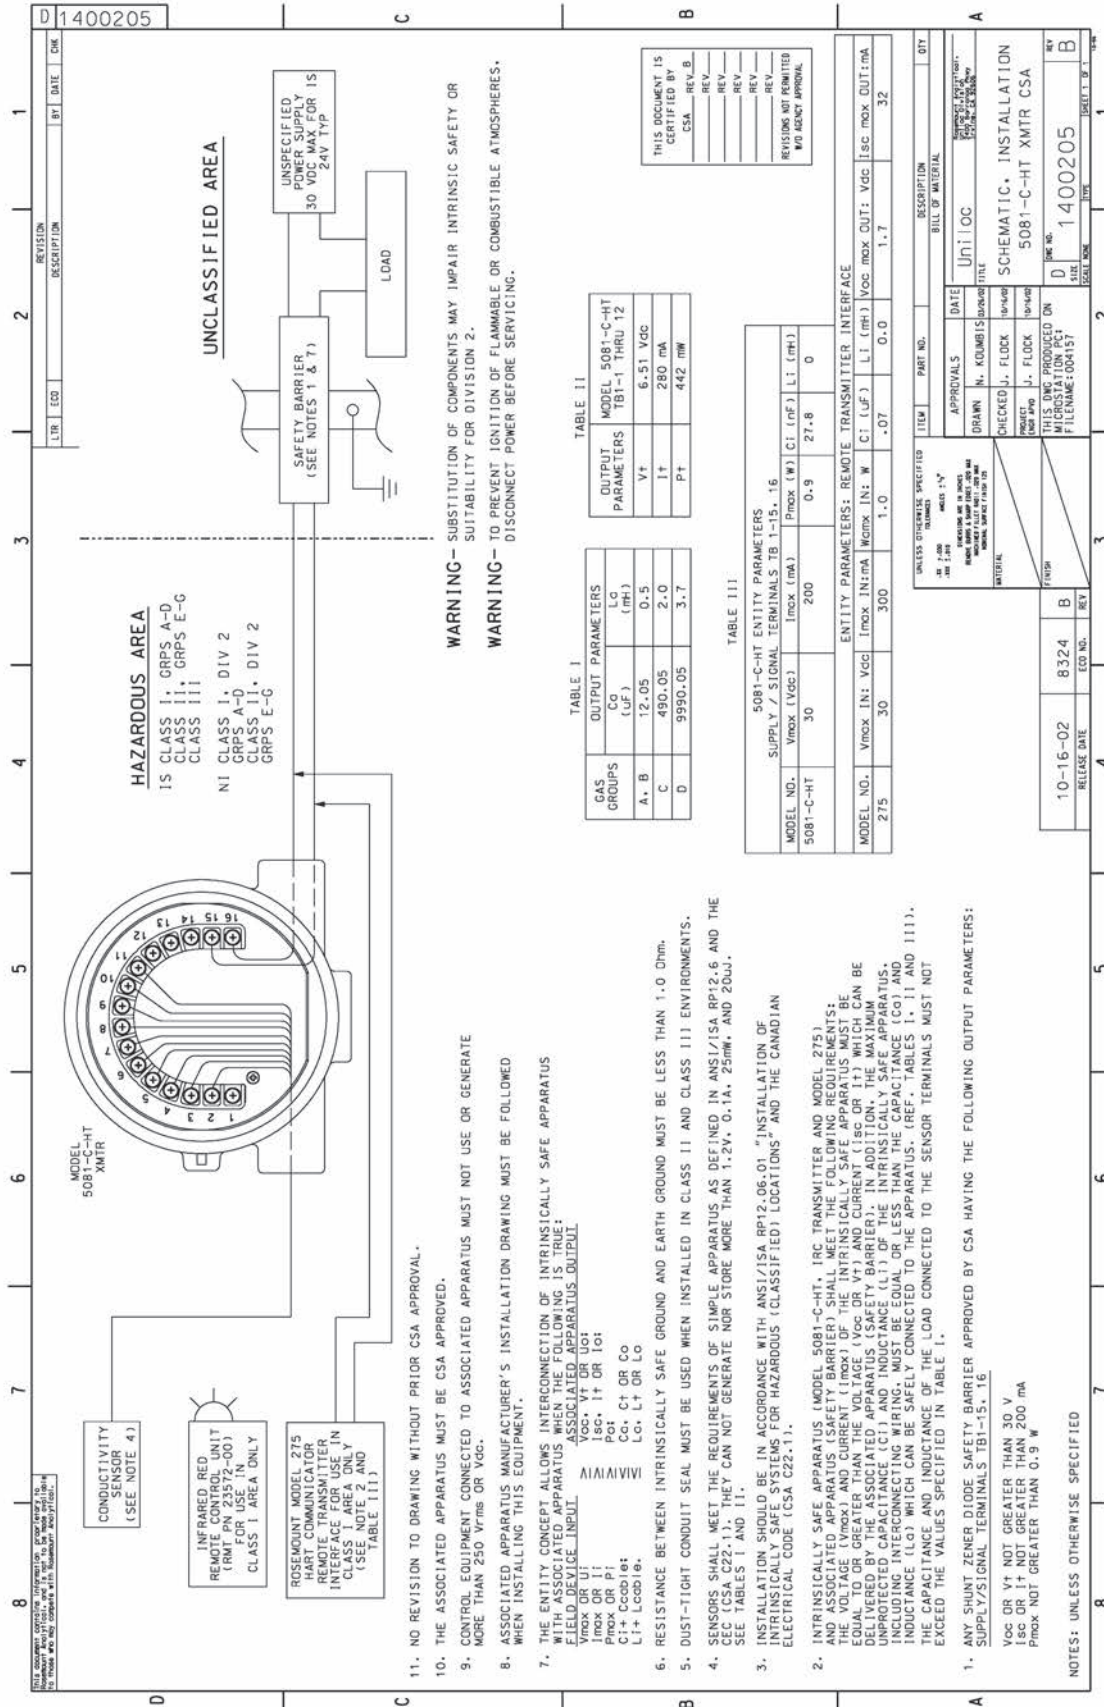

FIGURE 4-7. CSA Intrinsically Safe Installation for Model 5081-C-HT
- For CSA intrinsically Safe installation, see Figure 4-7.